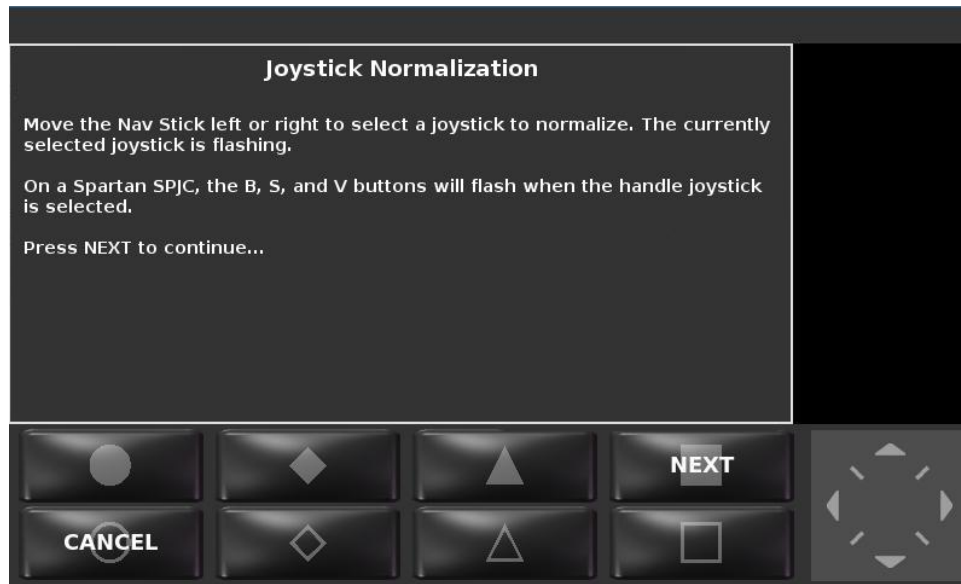

Figure 10: Joystick Normalization Wizard
- STEP 4: The Joystick Normalization wizard will appear, as shown in Figure 10.